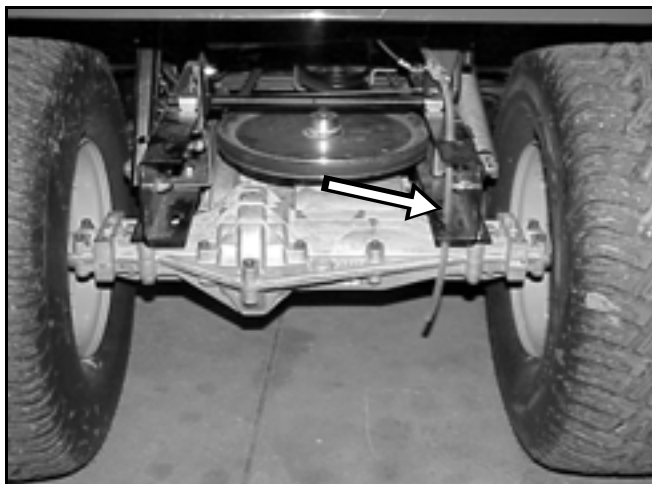

Figure 35
13. Install battery and battery tray making sure the battery drain tube is installed in the rear hole of the frame (Figure 35). Install the rear hitch panel (Figure 25).
- C. Reinstall the shift gate cover, rear hitch panel, battery, and battery tray. **Note:** Make sure the battery drain tube is installed in rear hole of the frame (Figure 35). Reconnect the battery cables.